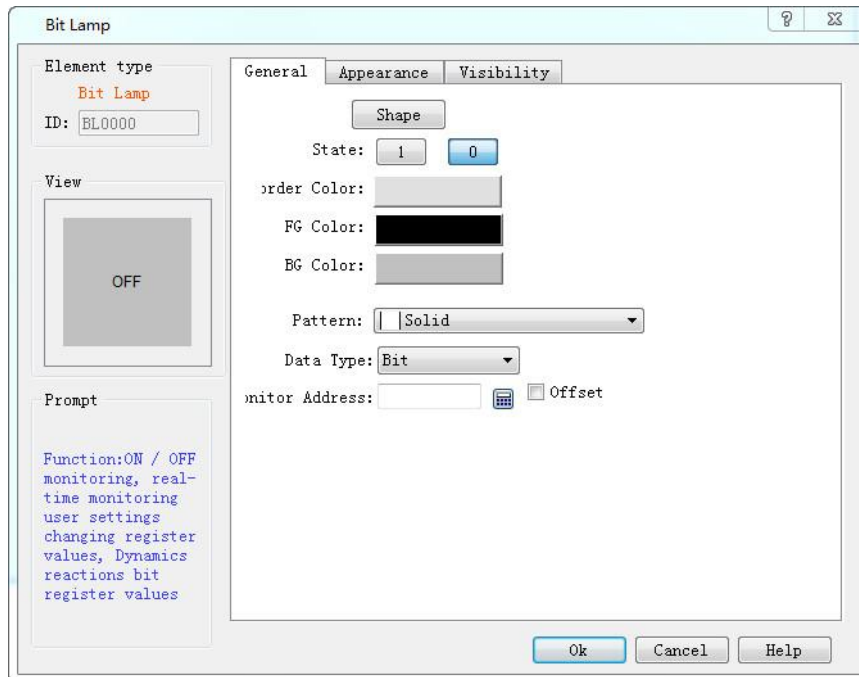

Figure 4-79 Bit Lamp dialog box
1. Select the Bit Lamp button icon  on the toolbar: The dialog box shown in Figure 4-79 will pop up: